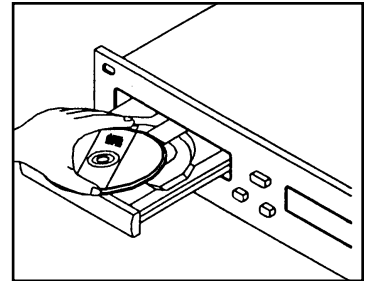
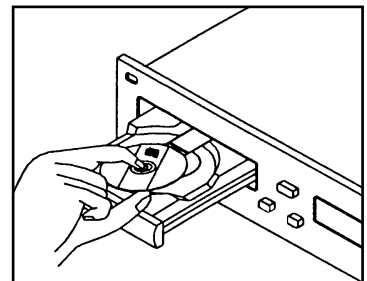

Fig. 10
Fig. 11
- When using 5 inch/12 cm discs, place the disc in the outer tray guides (Fig. 10), and when using 3 inch/8 cm discs, place them securely in the inner guides (Fig.11).